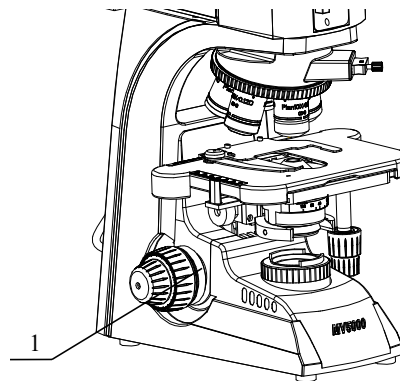

Fig.16
- ★ The coarse adjustment knob tension is pre-adjusted at the factory, if too loosen (the mechanical stage automatic decline because of weight), please rotate the hand wheel anticlockwise to locking (Figure 16, 1), until the tightness is proper.